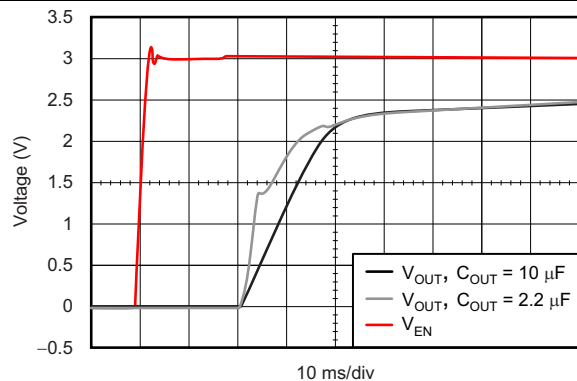
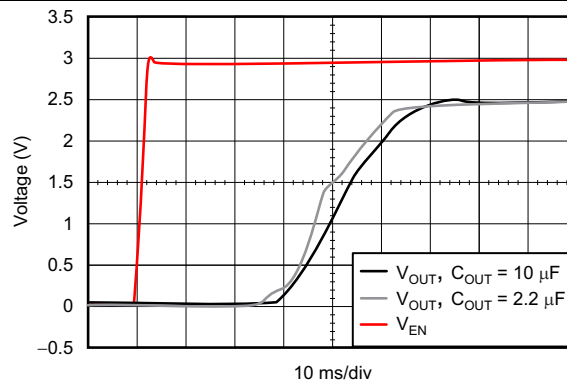

Figure 17. TPS73525-Q1 Turn-On Response ( $V_{IN} = V_{EN}$ )
Figure 18. TPS73525-Q1 Turn-On Response Using EN
Note that for fastest start-up, apply  $V_{IN}$  first, then drive the enable pin (EN) high. If the EN pin is tied to the IN pin, start-up is somewhat slower. Refer to the Typical Application section (see Figure 17 and Figure 18). The quick-start switch is closed for approximately 135  $\mu$ s. To ensure that  $C_{NR}$  is charged during the quick-start time, use a capacitor with a value of no more than 0.01  $\mu$ F.